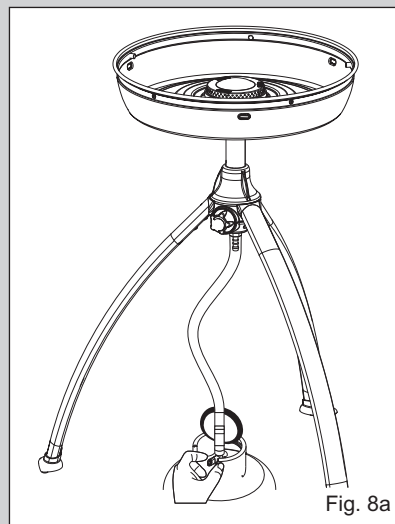

Fig. 8a
- Adjust the flame intensity to the desired level by turning the Control knob (k) clockwise to decrease the flame and anti-clockwise to increase it (See Fig.8a & b).
- After use, first close the valve on the gas container (where applicable). When the flame has extinguished, close the valve (M) on the appliance by turning the Control Knob (L) fully clockwise.